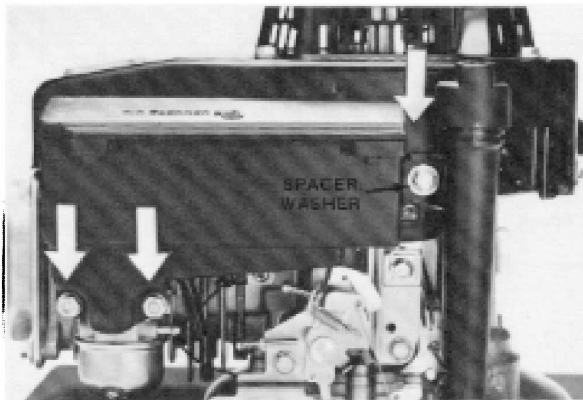

Figure 3-2
2. Remove the single screw retaining the air cleaner and dipstick tube and the two nuts retaining the air cleaner to the carburetor. See Fig. 3-2. Pull the air cleaner away from the carburetor. Remove the breather hose from the fitting on the air cleaner.
9. Remount the air cleaner. Make sure to install the spacer washer on the screw that retains the air cleaner and oil fill tube. Refer to Fig. 3-2.